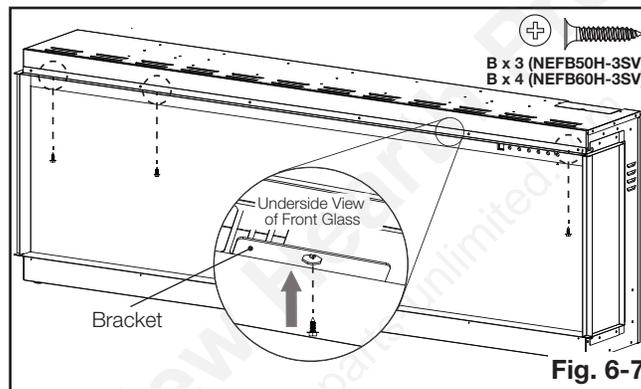

Fig. 6-7
3. Secure the flathead screws (supplied) through the bracket holes (**Fig. 6-7**).